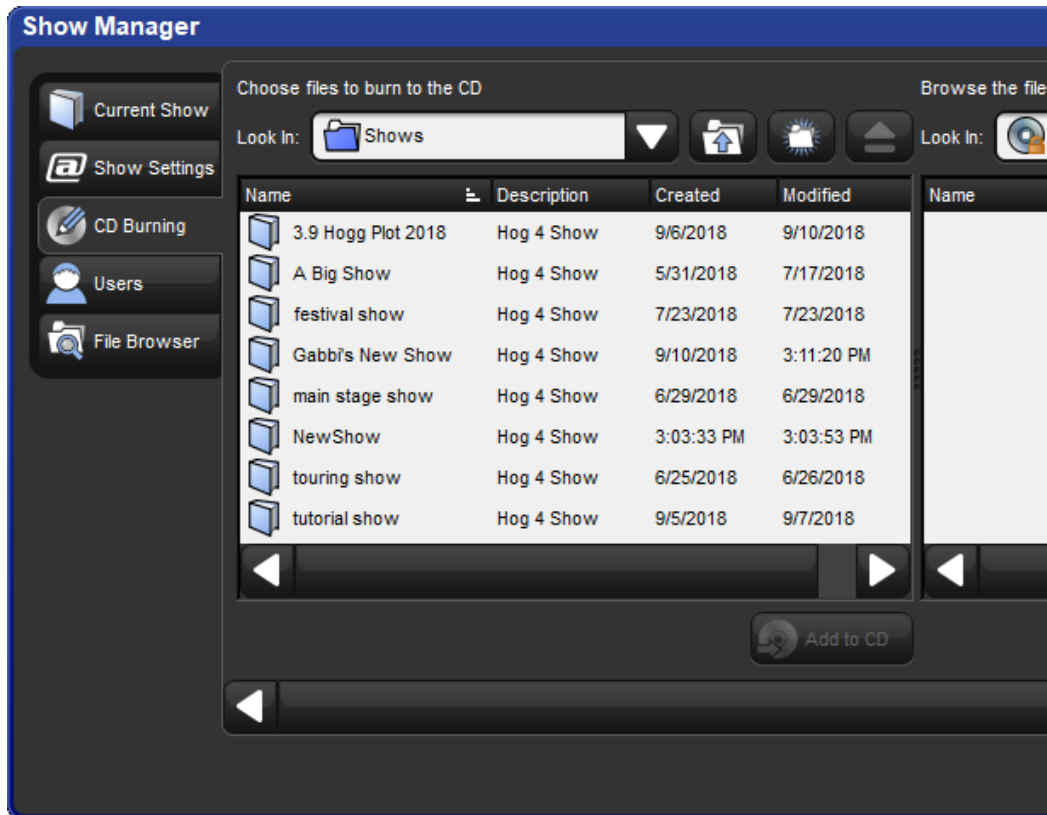

Figure 2.17. The CD Burning pane of the Show Manager window
1. Setup → Shows → CD Burning : see Figure 2.17, “The CD Burning pane of the Show Manager window”.